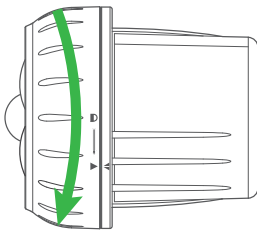

Figure 1
1. Turn the front cover of the spotlight counter-clockwise to the unlock position ▲ (see **Figure 1**) to release and remove the cover.
1. Turn the front cover of the spotlight counter-clockwise to the unlock position ▲ (see **Figure 1** on previous page) so it is no longer powered. Leave the batteries inside the battery compartment.